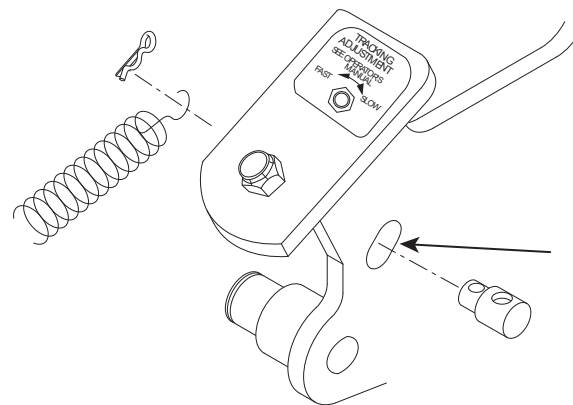

Figure 6-2. Control Rod Adjustment
- Reinstall the speed control spring onto the swivel. Install the hair pin onto the swivel. See Figure 6-2.